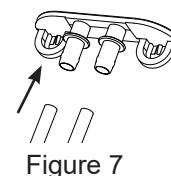

Figure 7
12. Remove the plugs and allow the water to completely drain. See figure 7.